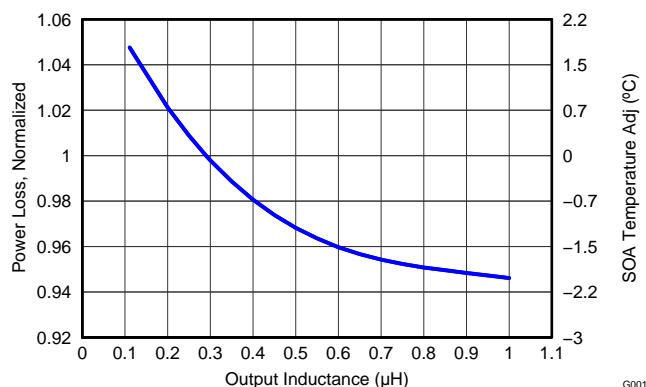

Figure 15. Normalized Power Loss vs Output Inductance
- Normalized Power Loss for output inductor ≈ 1.02 (Figure 15)
- SOA adjustment for output inductor $\approx 1.7^{\circ}C$ (Figure 15)